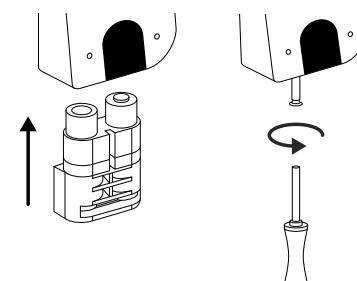

Fig. 5
⑤ Insert the battery compartment back into the housing and screw it tight (Fig. 5).